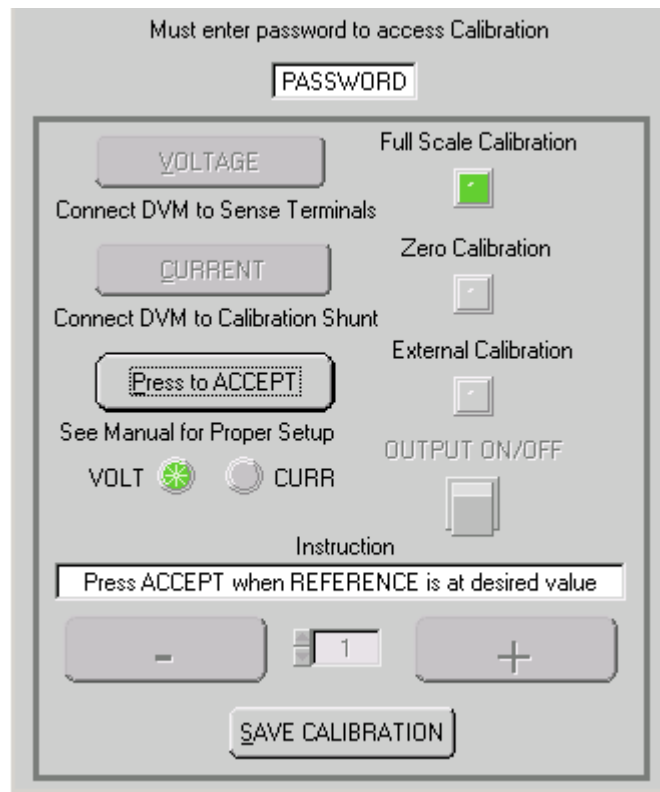

FIGURE 4-5. ANALOG REFERENCE CALIBRATION WINDOW
- Click the **ANALOG REF** button on the Calibration Window; the Analog Reference Calibration Window (Figure 4-5) appears and the status display on the VXI main panel reads **INPV**. With the reference voltage adjusted to 10.000V, click the **PRESS TO ACCEPT** button to accept the value.